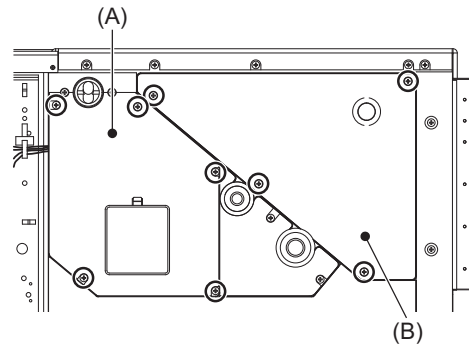

Fig.1
- (1) Remove control box cover with procedure **[1]-1**.
- (2) Remove the fixing screws (five) of the heat exchanger cover (A), and remove the cover (A). (Fig.1)
- (3) Remove the fixing screws (four) of maintenance cover (B), and remove the cover (B). (Fig.1)